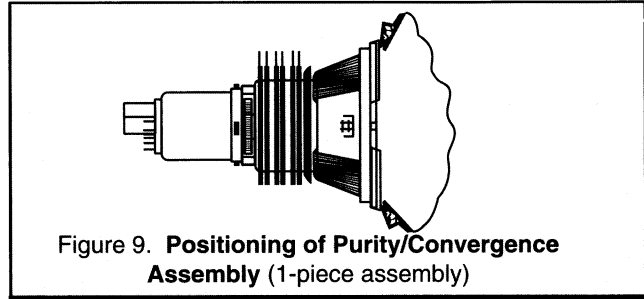

Figure 9. Positioning of Purity/Convergence Assembly (1-piece assembly)
### For a 1-piece assembly (see Fig. 9):
**For a 1-piece assembly** (see Fig. 9):